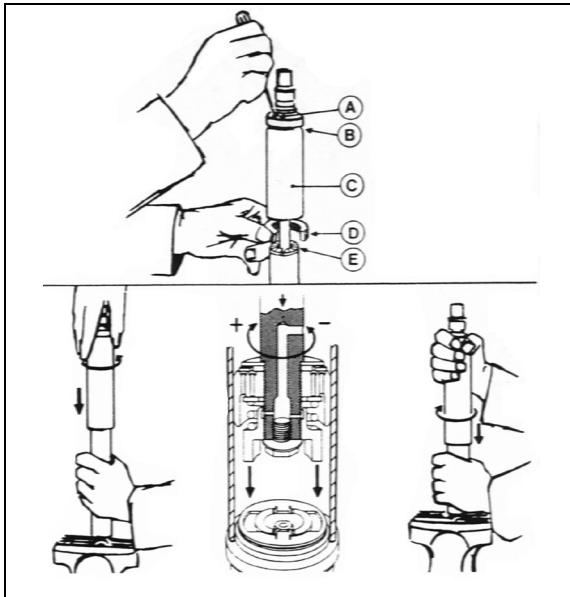

FIGURE 23: DAMPER
To adjust opening and closing cycle speed on damper (Fig. 23):
2. Fully close the damper while turning the dust cap or piston rod slowly CCW until it is felt that the cams of the adjusting nut engage in the recesses of the foot valve assembly (Fig. 23).
*In figure 23, if there is an indentation (B) in the dust cap (C) and the cover shows two holes (A), the damper is fitted with a bump rubber (D). If so, fully extend the damper and insert a round bar or screwdriver through the holes. Push the bump rubber down and remove. Remove the split plastic collar (E) (if fitted) from the piston rod.*
Where a bump rubber was installed, refit same inside the dust cap and by fully closing the damper, the rubber will seat again at top of the dust cap. Refit the split plastic collar E (Fig. 23).